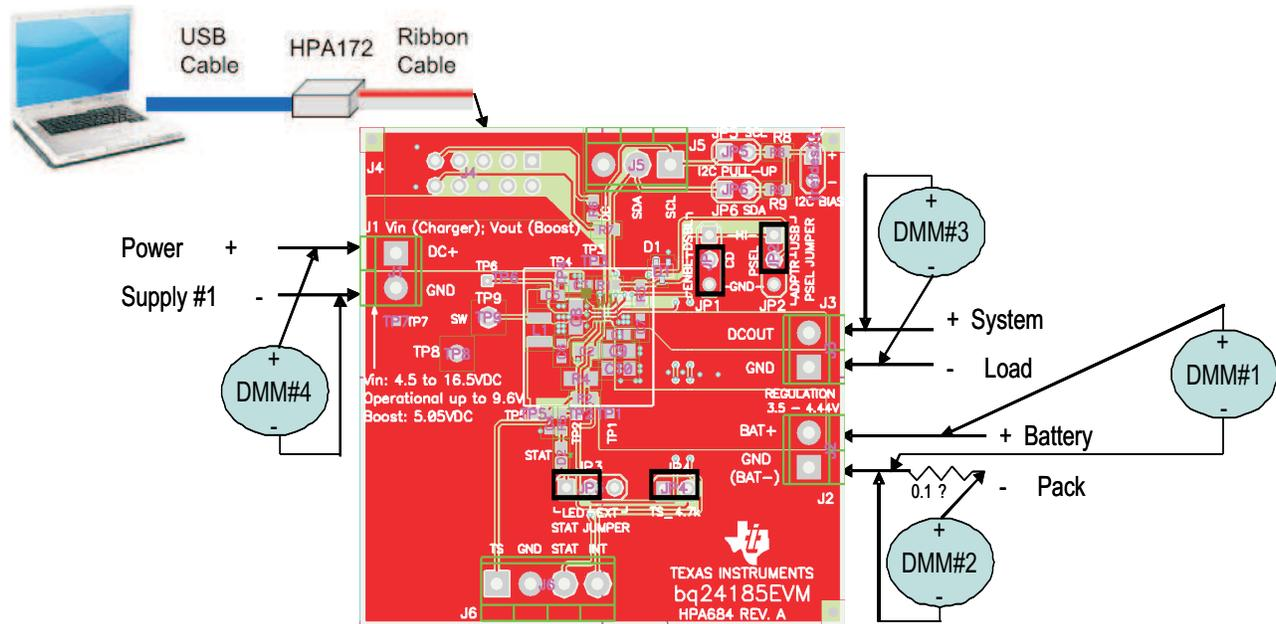

Figure 2. Evaluation Setup
3. Connect the battery (discharged to \sim 3.1 V) or simulated battery load to J2 as shown in Figure 2. If simulated load is used, connect the output of PS#2 (+ lead) to the anode of the simulated load and return to ground (DC-).